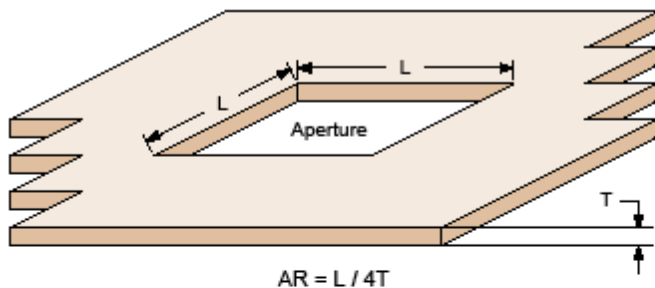

Figure 6-1 Stencil printing aperture area ratio (AR)
One key parameter that should be evaluated is the ratio of aperture area to sidewall area, known as the area ratio (AR). QTI recommends square apertures for optimal solder-paste release. In this case, a simple equation can be used relating the side length of the aperture to the stencil thickness (as shown and explained in Figure 6-1). Larger area ratios enable better transfer of solder paste to the PCB, minimize defects, and ensure a more stable printing process. Inter-aperture spacing should be at least as thick as the stencil; otherwise, paste deposits may bridge.